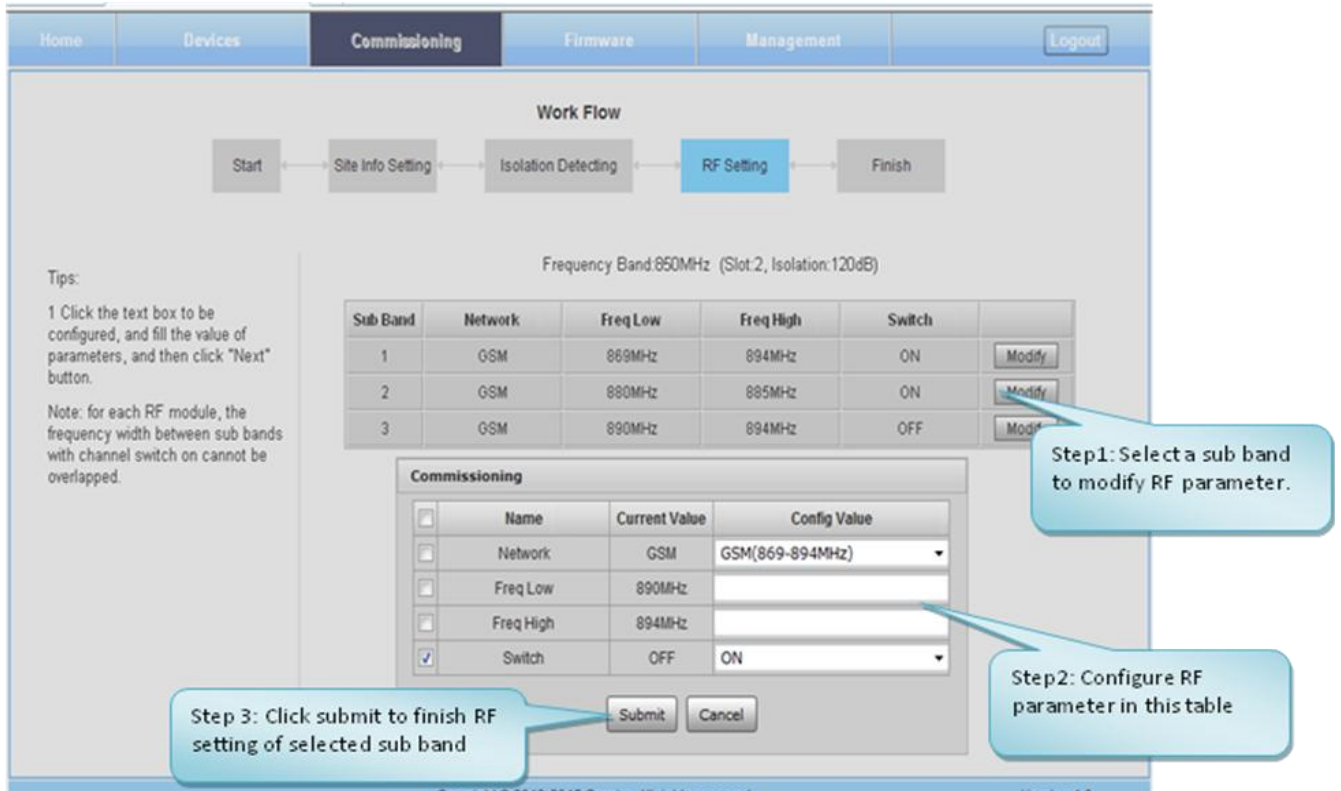

Figure 55: Commissioning Procedure – Subband bandwidth and Switch Setting
- ✓ Click to continue. If isolation detection success, the process will go to RF Setting Screen shown as Figure 55. If failed, a Tips window will pop-up shown as Figure 54, users need to check whether the system isolation is very weak.